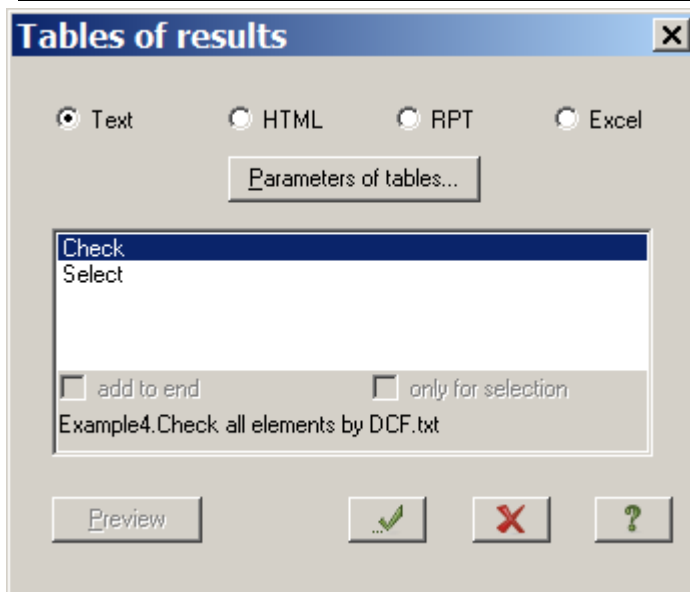

Figure 4.39 **Tables of results (steel analysis)** dialog box
- ⇒ In the **Table of results** dialog box (see Fig.4.39), select the **Check** option.
- ⇒ In the **Table of results** dialog box (see Fig.4.39), define the **Select** option.